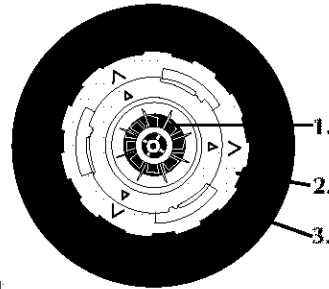

**Figure 25 -
- Replace the filter plate so it lies flat in the base of the DishDrawer ensuring the filter plate is fully locked into position with the outer ring. To lock the filter plate into position, ensure the triangles (▲) align with each other (see Figure 25 for the correct position). The filter plate must not be able to move about freely.